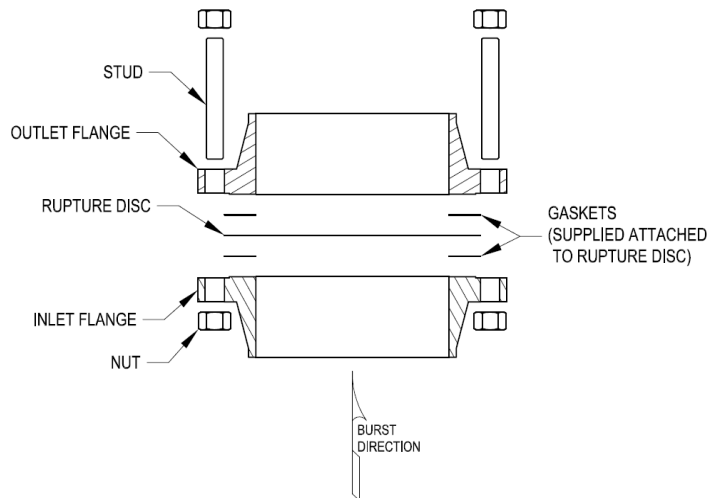

Figure 1 - Rupture Disc Installation
2. Center the rupture disc between the pipe flanges, see Figure 1.